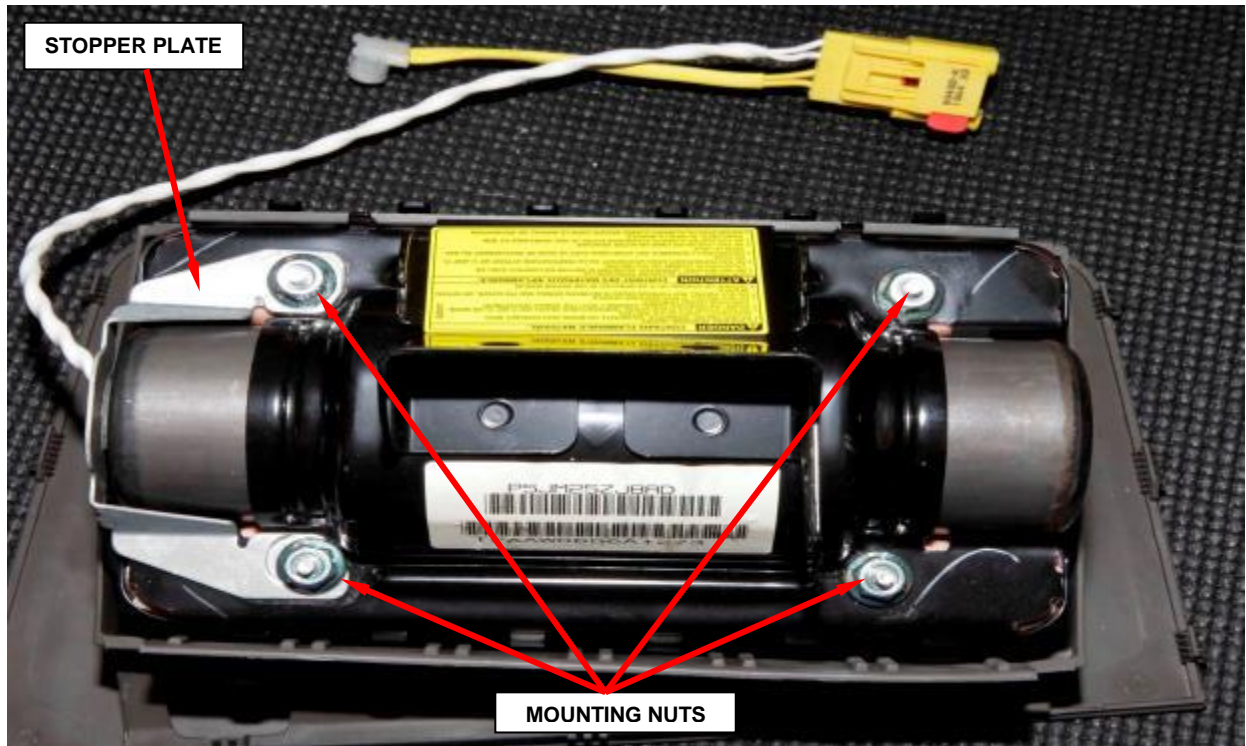

Figure 94 – Mounting Nuts and Stopper Plate
e. Remove and discard the four mounting nuts and stopper plate from the passenger airbag module (Figure 94).
- h. Install the stopper plate to the airbag module (Figure 94).
- i. Install the four new mounting nuts to the airbag module and tighten to 53 in. lbs. (6 N·m) (Figure 94).